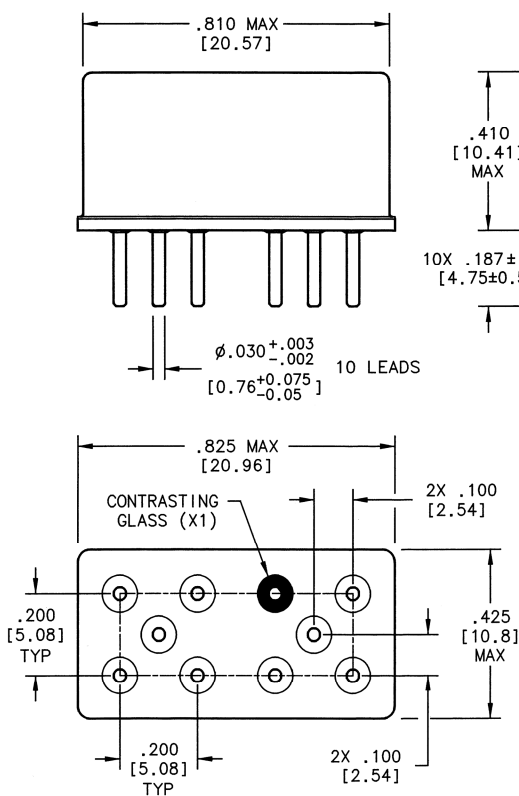

Figure 1
Notes to Figures 1 and 2:
1. The standard configuration is shown in Figure 1.
See Figure 1 and 2.
Gold plated or solder coated with Sn60 or Sn63, solder per ANSI/J-STD-006. Refer to Figure 1 herein and TR-HIREL-1/Supplement 1.